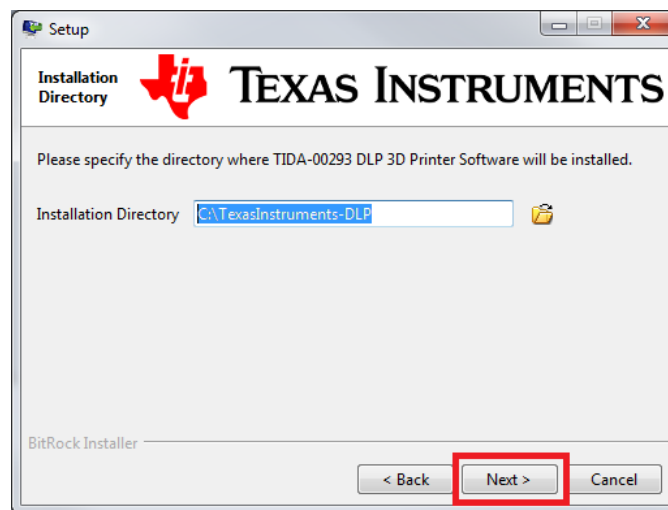

Figure 2-14. DLP 3D Printer Reference Design Installation Path Selection
5. Select an installation path where the reference design software will be located. Click the **Next** button, as shown in Figure 2-14. Click the **Next** button to continue installing the software. **Warning:** Do not include any spaces in the installation path for the reference design. Spaces will cause errors if the software is built from source as described in Chapter 4!